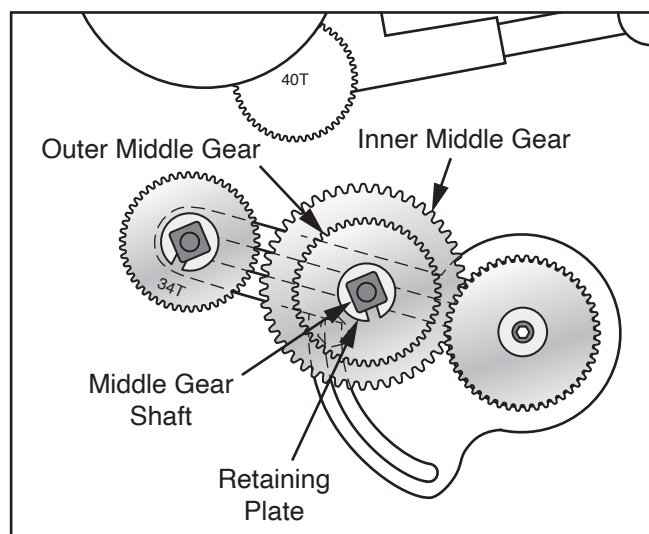

Figure 91. Middle position gears.
9. Check which gears are installed in inner middle and outer middle positions (see **Figure 91** on **Page 59**).
10. Slide retaining plate out of middle gear shaft slot (see **Figure 91**), replace installed gears so 75T gear is in inner position and 72T is in outer position, making sure to align keys and keyways, then slide retaining plate back in place to secure.